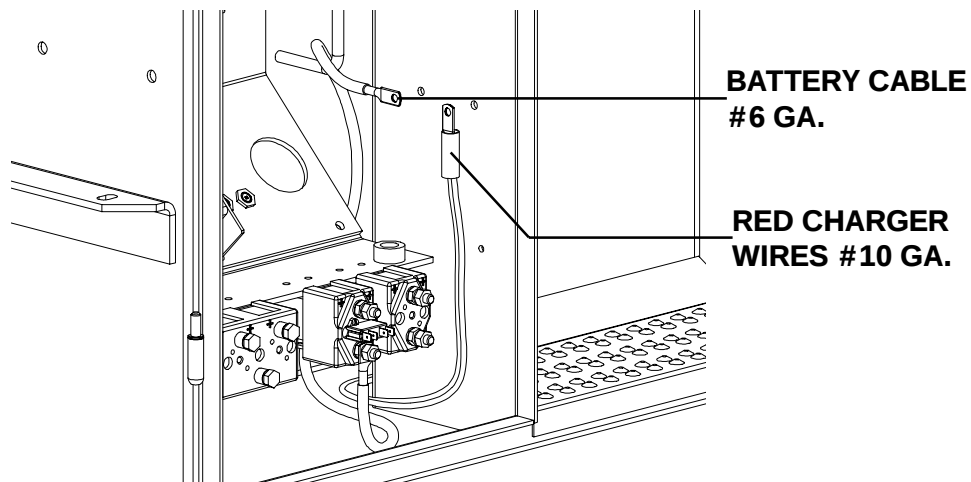

Figure 1-8
Step 15. Install the Battery Cable from the Line Contactor 48V Positive Terminal looping over the cablecarrier in the cabinet to the rear fuse insulator in the fuse box **(Refer to Figure 1-8).**
- The two Red 10 Ga. Battery Charger wires to the front fuse insulator in the fuse box **(Refer to Figure 1-8).**